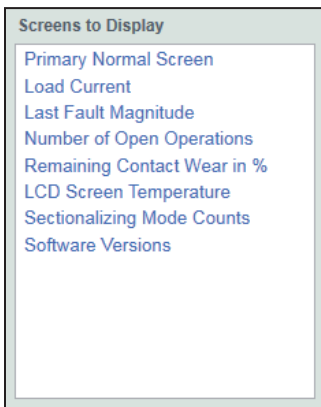

Figure 113. The list of screens that will be displayed.
**Screens to Display.** This is the list of items that will be displayed on the LCD screen under the **Display Screen** mode. See Figure 113. Multiple items can be selected simultaneously. Up to 32 items can be added to this list.